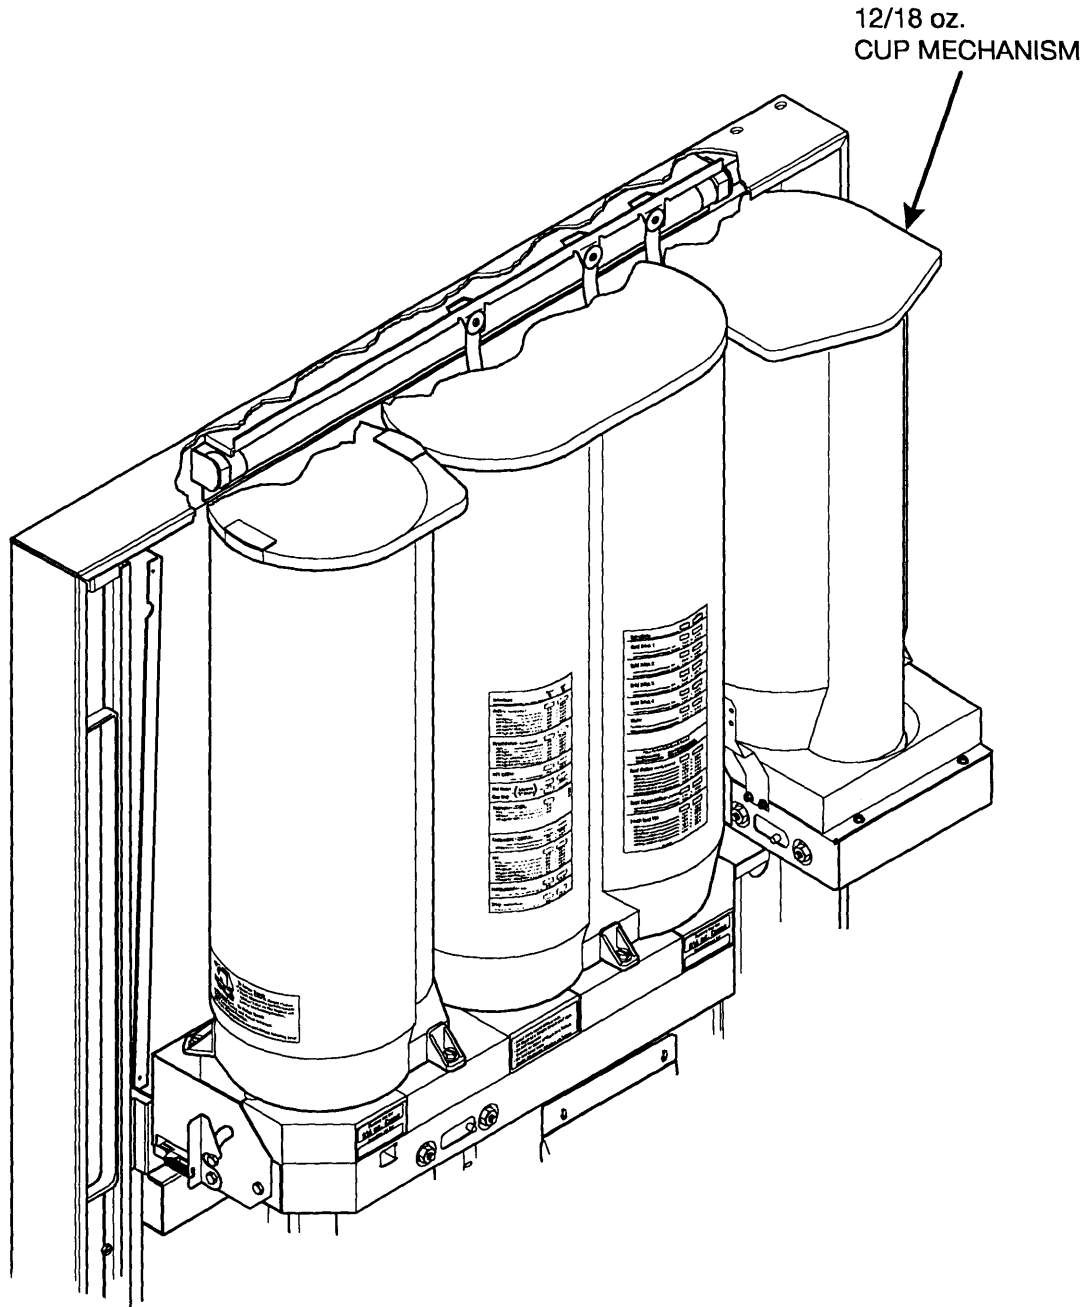
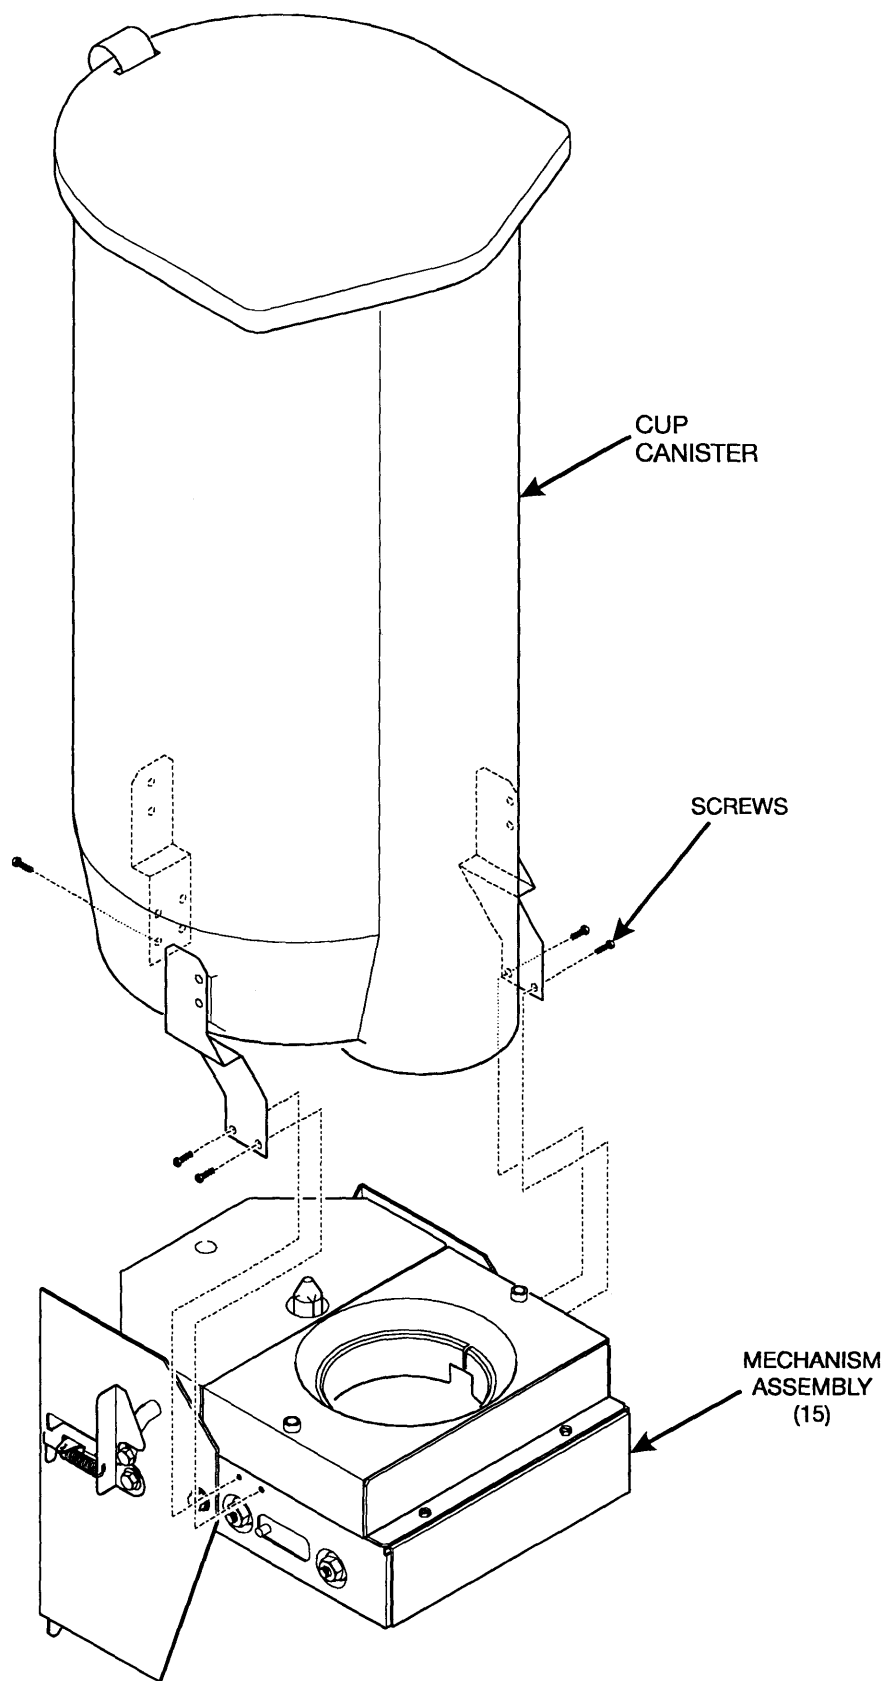

Figure 5
Figure 6
21. See figure 5. Remove the optional 12/18 oz cup mechanism assembly from the door.
22. See figure 6. Remove the 8 screws fastening the cup canister to the mechanism assembly.
23. Install the cup canister removed in step 22 to the new mechanism (15).
24. See figure 5. Install the newly assembled 12/18 oz cup mechanism assembly on to the door.